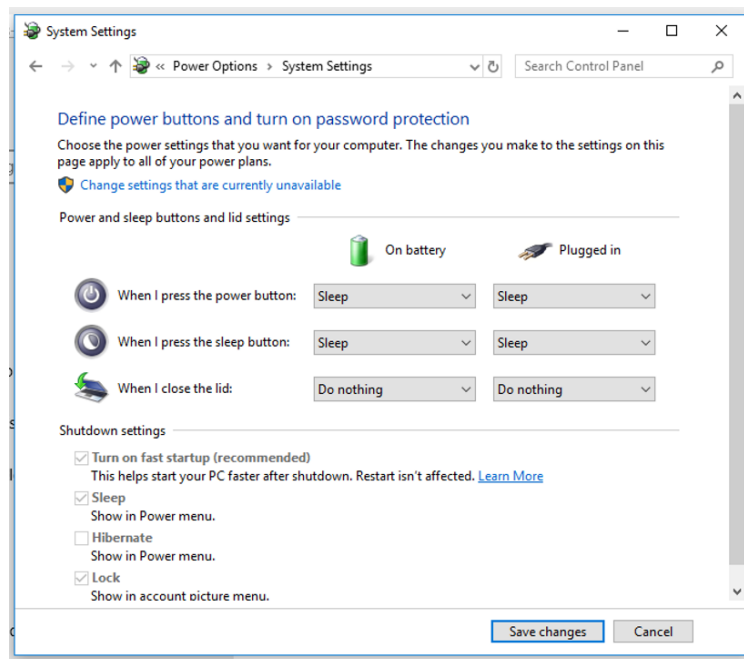

Figure 34: Power Settings For Range Extension
5. Open Control Panel. Select *Power Options* -> *Advanced Options*. In the section for “When I close the lid:” select “Do nothing.” Save changes. (fig 34)